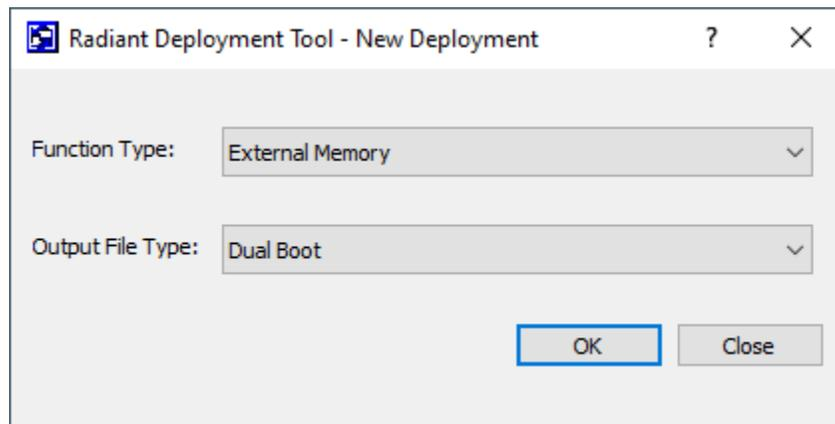

Figure 4.1. Creating New Deployment for Dual Boot PROM Hex File
- In the Radiant Deployment Tool window, select **External Memory** as the **Function Type** and select **Dual Boot** as the **Output File Type** (Figure 4.1).